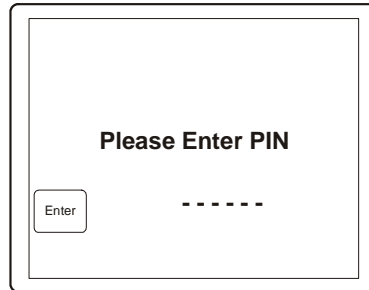

Figure 3.3: Enter PIN screen
2. At the Enter PIN screen (figure 3.3) enter the PIN number using the alphanumeric keys. Press the ENTER soft key.
3. At the Enter PIN screen (figure 3.3) enter the PIN number using the alphanumeric keys. Press the ENTER soft key.